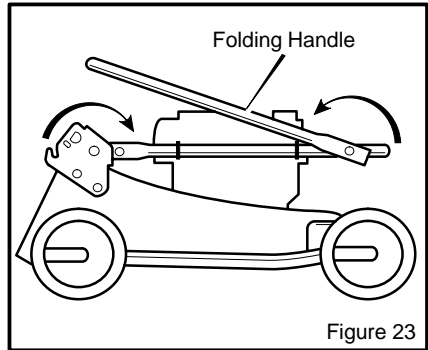

Figure 23
1. Loosen the fasteners that hold the upper part of the handle to the lower part of the handle. As you fold the handle, make sure the cables are not around the loose fasteners and do not become damaged. Rotate the upper part of the handle back (Figure 23).